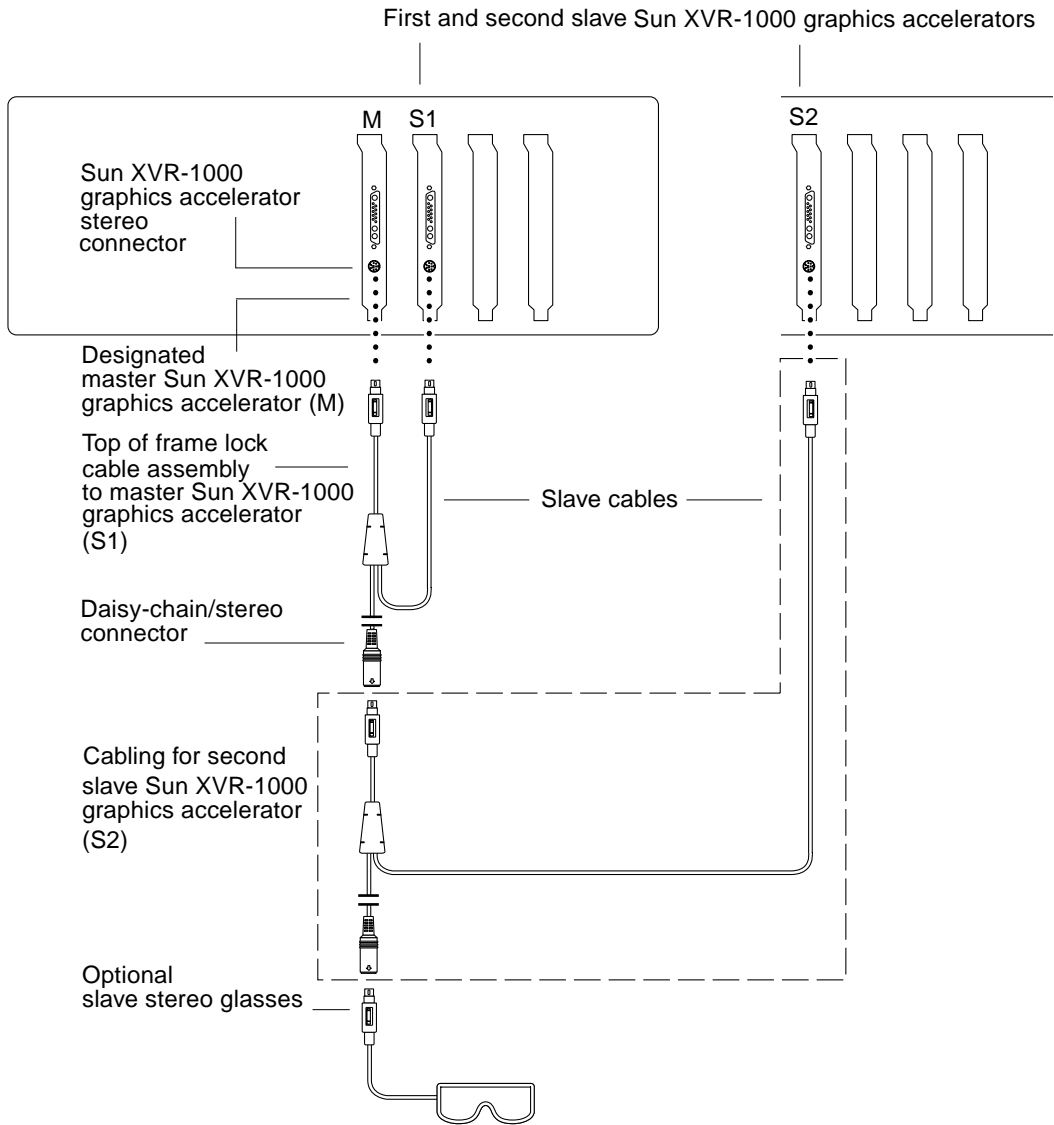

FIGURE 5-3 Sun XVR-1000 Graphics Accelerator and Frame Lock Cable Assembly
3. Connect a second slave Sun XVR-1000 graphics accelerator, if applicable, or stereo glasses to the daisy-chain/stereo connector (FIGURE 5-3).